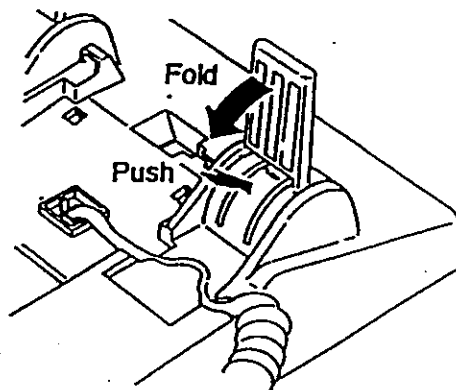

Figure 1-51 Folding the Legs of the Tilt Stand
- c. Fold the legs toward the body of the telephone. (Refer to Figure 1-51 - Folding the Legs of the Tilt Stand.)
4. Plug the connector labeled CN1, from the ADA (1)-W (GG) Unit or ADA (2)-WA (GG) Unit, into the jack labeled CN4, on the Main Board. (Refer to Figure 1-51 - ADA(1)-W(GG) Unit or ADA(2)-WA(GG) Unit Installation and Table 1-28 - ADA(1)-W(GG) Unit or ADA(2)-WA(GG) Unit Cable Connection.)